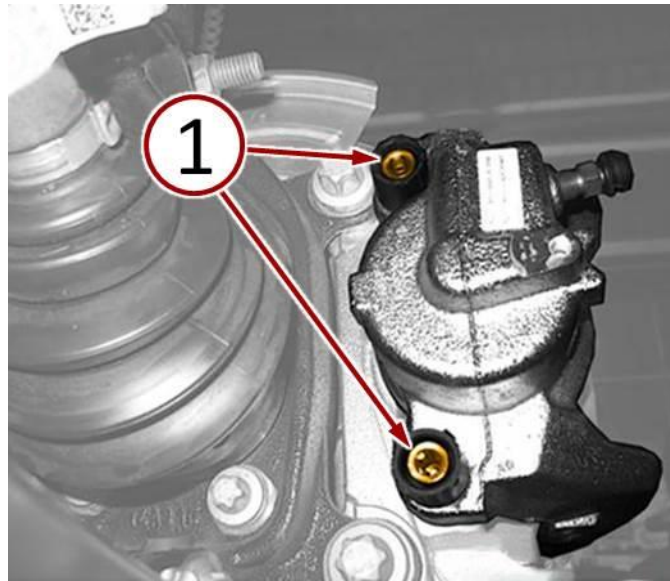

Fig. 2 Loosen Brake Caliper Guide Pin Bolts
5. Loosen the brake caliper mounting guide pin bolts (1) (Fig. 2).